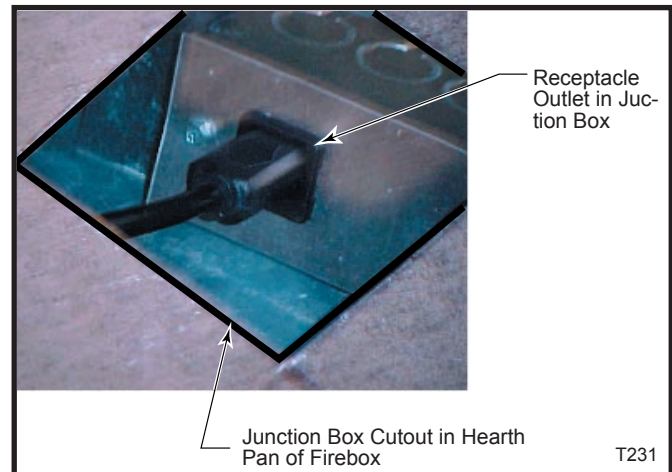

Fig. 11 Route powercord under the hearth pan and plug into the receptacle outlet.
Step 5: Locate the junction box cutout found on the right side of the hearth pan. Route the powercord under the hearth pan and plug it into the receptacle outlet found in the junction box. (Fig. 11)